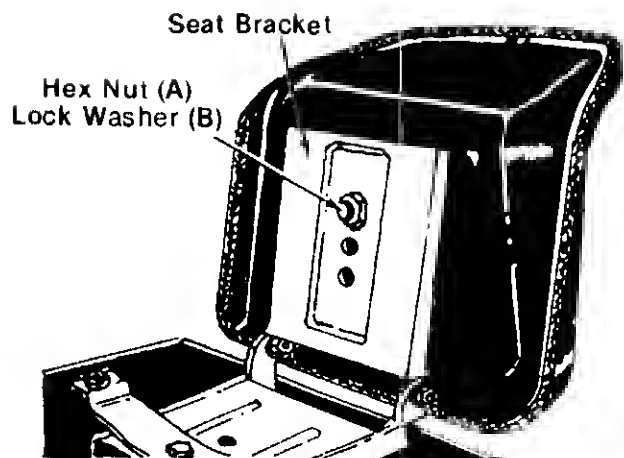

FIGURE 8.
The seat may be adjusted to three different positions. Select the desired seat position and secure the seat to the seat bracket with hex nut (A) and lock washer (B). See figure 8.